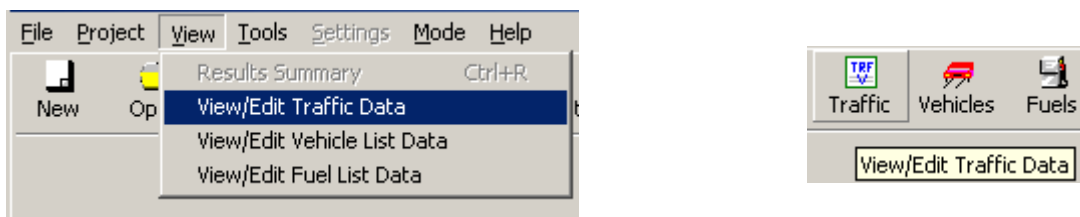

Fig. 7.7 Two ways to access the "Traffic Data Editor": Through a menu and through a toolbar button.
- Select the traffic file name (single click) and use the menu **View /View/Edit Traffic Data** or the corresponding toolbar button (Fig. 7.7). The traffic file must be active, i.e. the check box to left of the file name must be checked.